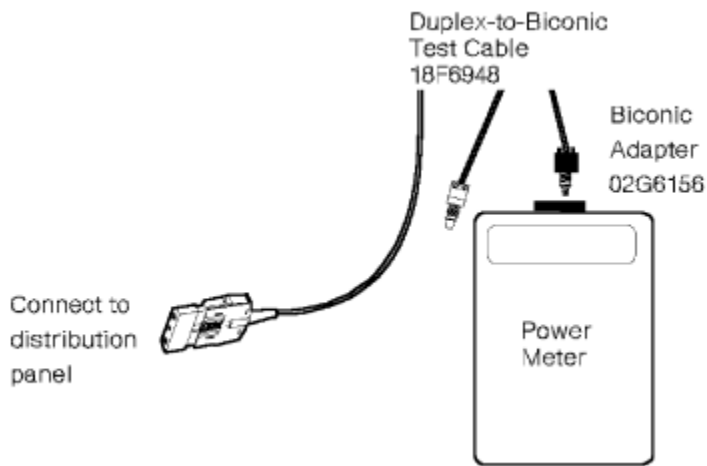
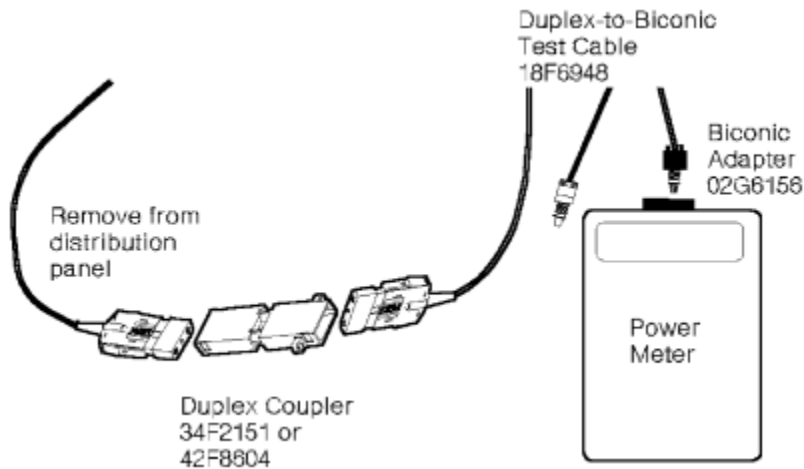
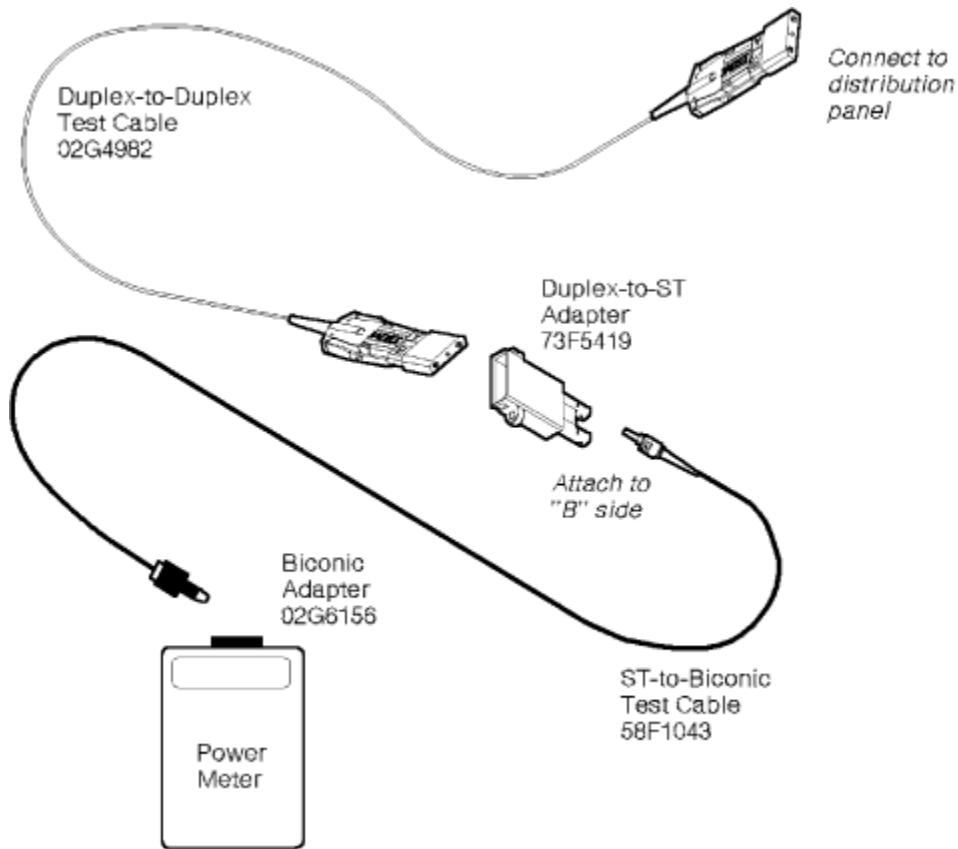
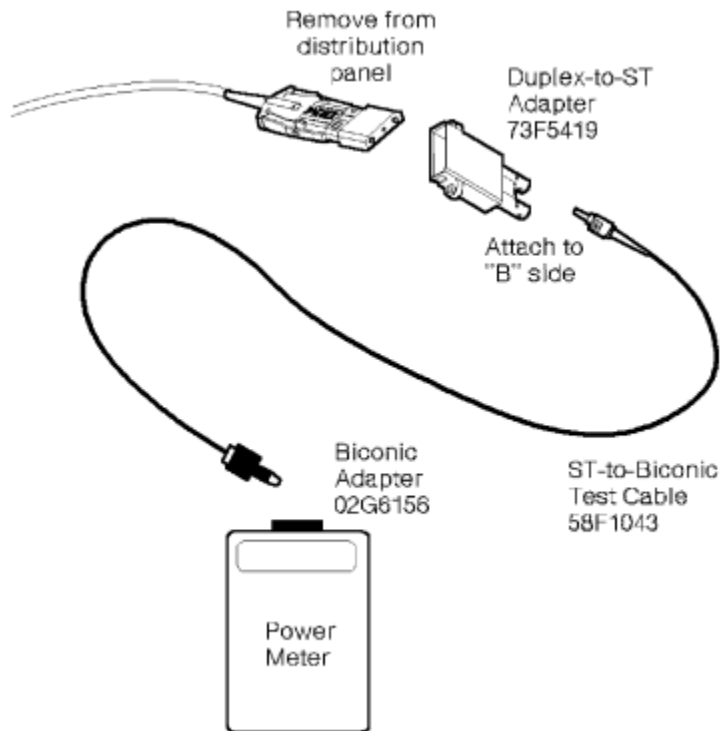

Figure 41. Measuring **C2** or **D1** for a multi-mode link
Figure 42. Measuring **C1** or **D2** for a multi-mode link
Figure 43. Measuring **C2** or **D1** for a single-mode link
Figure 44. Measuring **C1** or **D2** for a single-mode link
- Multi-mode links-See Figure 41 on page 39 and Figure 42 on page 39.
- Single-mode links-See Figure 43 on page 40 and Figure 44 on page 40.
1) Take measurements at **C2** and **D2**. Measure **C2** at the distribution panel, and measure **D2** at the jumper 2 connector (removed from the distribution panel). See Figure 41 on page 39 and Figure 42 on page 39 for multi-mode links; see Figure 43 on page 40 and Figure 44 on page 40 for single-mode links.